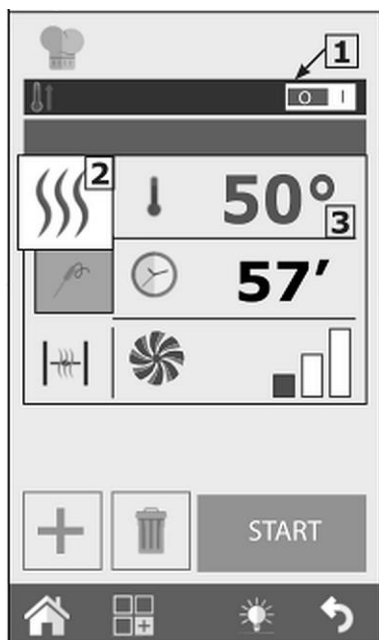
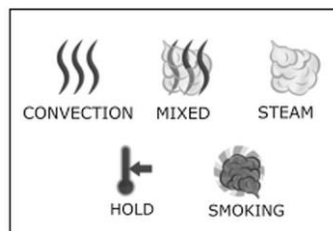
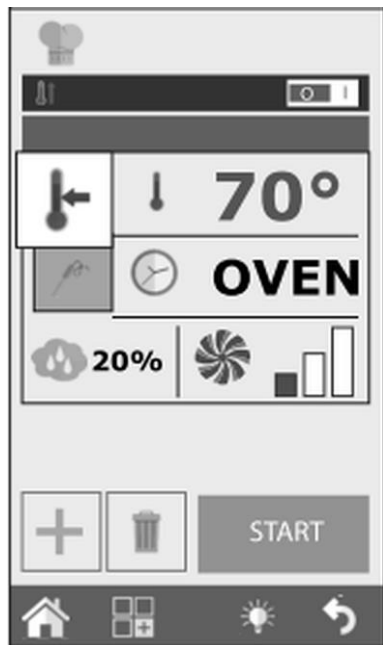

Fig. 10
Fig. 11
Fig. 15
By pressing key 1 (Fig. 10) to the left or right, this function may be enabled or disabled.
Key 2 (Fig. 10) is factory-set as default to **Convection** thermal processing mode. By pressing this key, the thermal processing mode may be changed to **Mixed** or **Steam**. Additionally, you may set the following thermal processing modes: **Hold** or **Smoking** (Fig. 11).
By pressing key 3 (Fig. 10) you can set the oven chamber temperature. The temperature that can be set varies depending on the selected thermal processing method.
2. To modify the phase in the 'Hold' mode, press the thermal processing mode key (2, Fig. 10) and select HOLD symbol (Fig. 15).